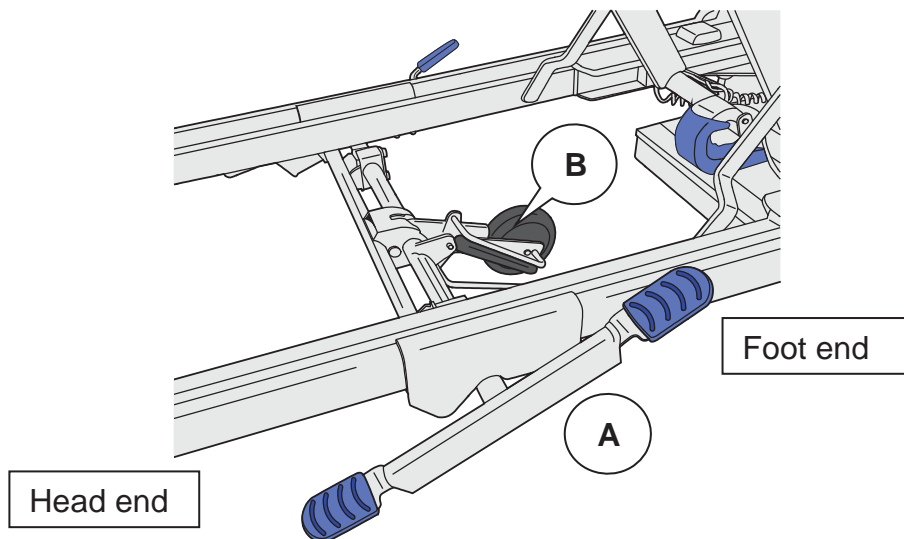

Fig. 1 - 5th wheel activation pedal
1. Step down on the head end of the 5th wheel activation pedal (A). **(See Fig. 1)**
1. Step down on the foot end of the 5th wheel activation pedal (A). **(See Fig. 1)**
2. Make sure the 5th wheel (B) is raised from the floor.